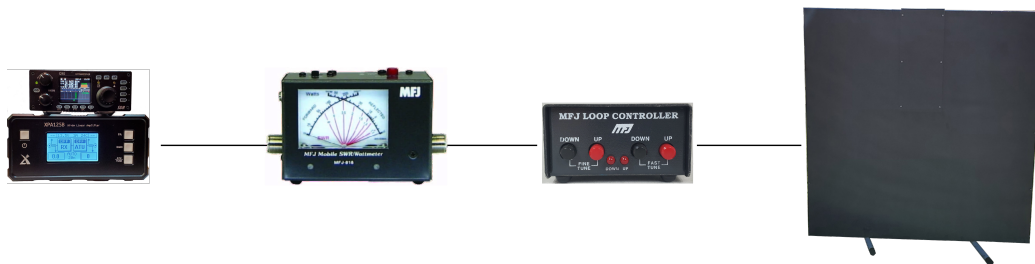

Figure 5: Typical Station Setup
Figure 5 shows a simple layout for a portable station using the MFJ-1783. Connect the controller, either the standard one or the Deluxe Loop Controller, between the radio and the MFJ-1783. Key the radio at low power (<10W) and adjust the antenna to match using the either radio's SWR meter or a simple one such as the MFJ-818.
Step 2: Assemble your station as shown in Figure 5.